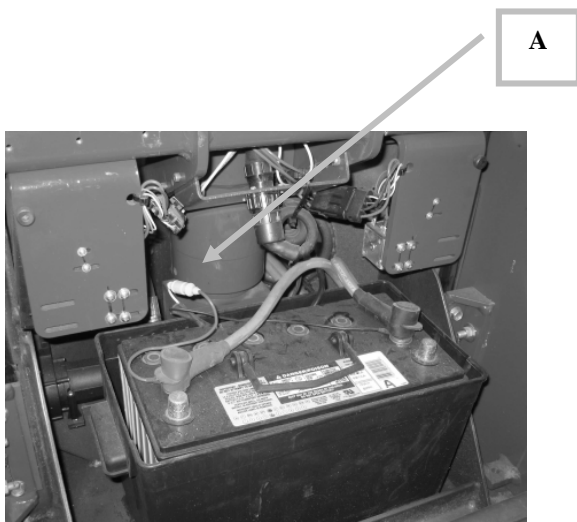

Figure 9 (Battery Cover removed for clarity)
- A. Battery Charger is protected from a battery short circuit by a 30 Amp glass type in-line fuse located near the battery terminals (See **Figure 9, Item A**).